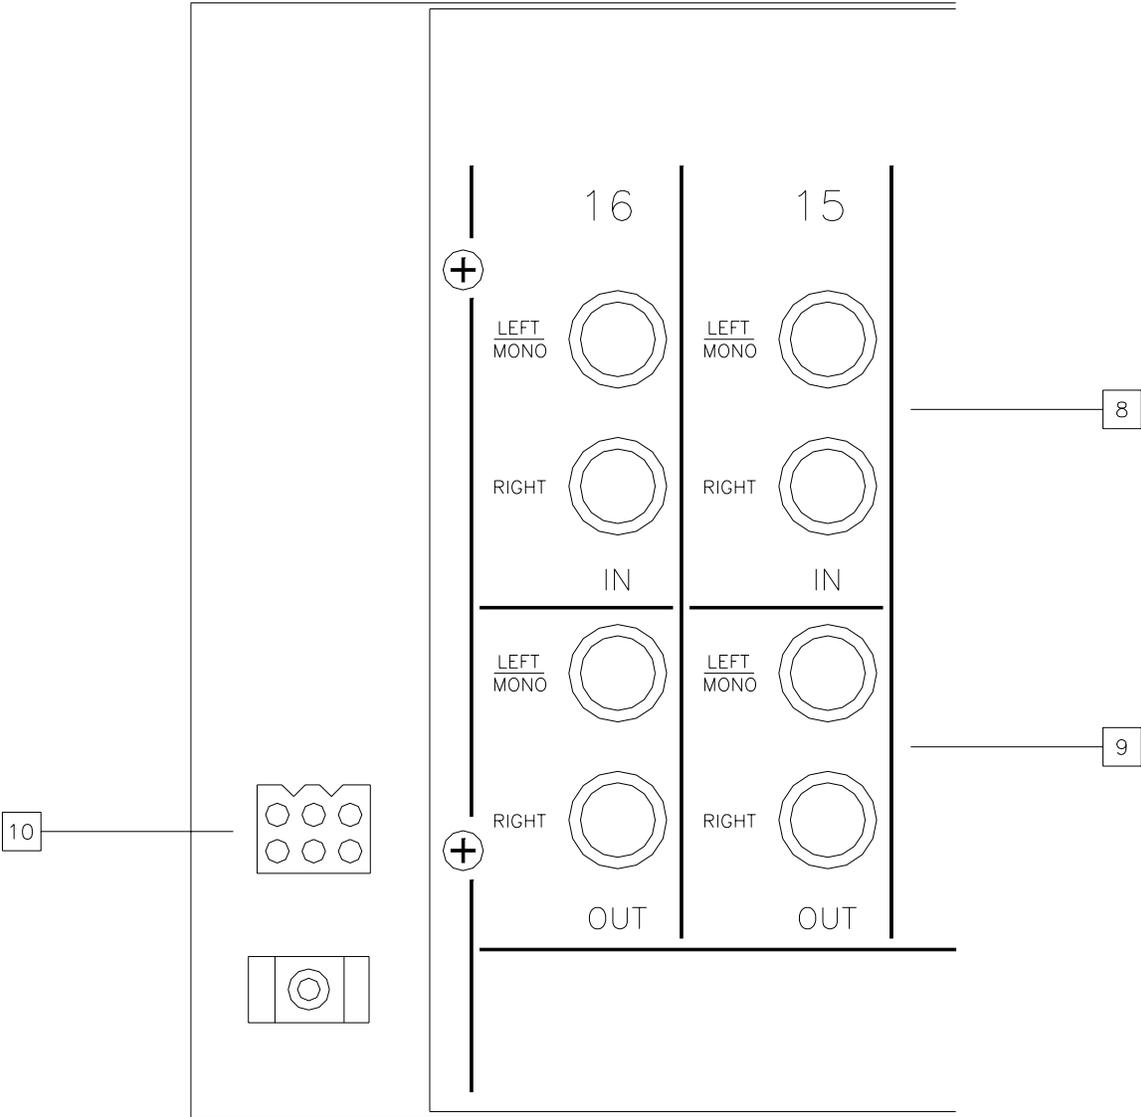

Figure 11. Equalizer Rear Panel
Refer to Figure 11 for location of items 8 thru 10.